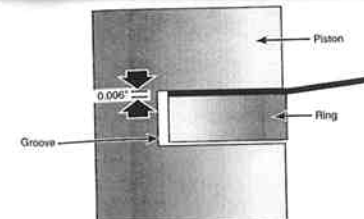

Figure 2
4. Check for wear in the top grooves by installing a top compression ring, holding the face of the ring flush with the ring land and inserting a feeler gauge between the upper side of the ring and the groove. If the clearance is greater than .006", the groove has excessive wear and the piston should be replaced or possibly regrooved. (Fig.2)